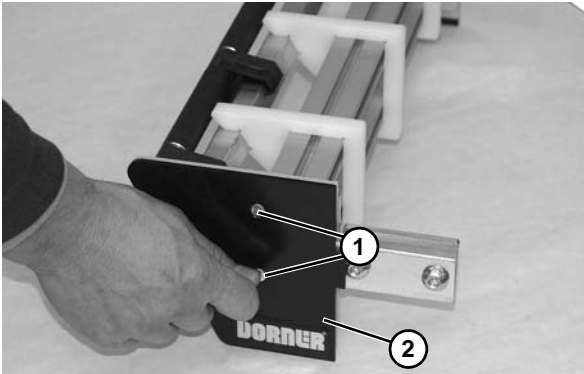

Figure 92
4. Remove two flat head screws (**Figure 92, item 1**) and cover plate (**Figure 92, item 2**). Repeat procedure on opposite side.